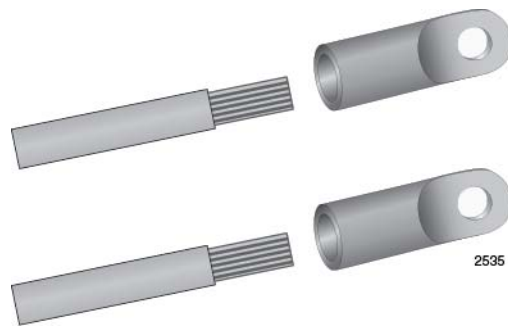

Figure 139. Attaching the Power Wires to the Straight Terminal Lugs
2. Insert the power wires into the terminals included with the power supply and use a crimping tool to secure the wires to the terminals. See Figure 139.